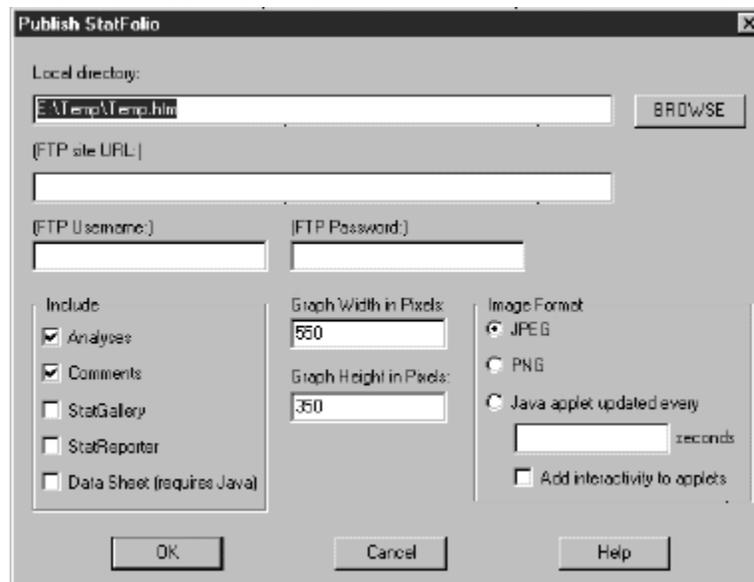

Figure 6-10. Publish StatFolio Dialog Box
1. Choose FILE...STATPUBLISH...from the Menu bar to display the Publish StatFolio dialog box (see Figure 6-10).